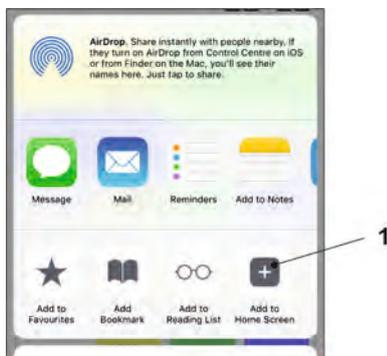

Fig. 31-17 To Home Screen
9. Select “To Home Screen” (Fig. 31-17 no. 1).